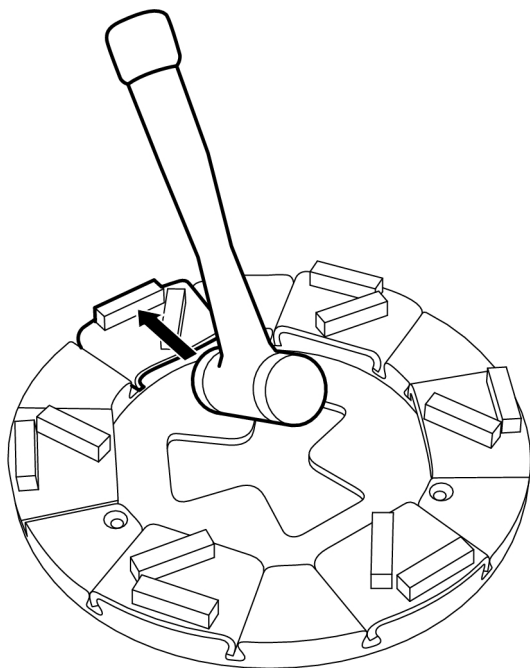

Figure 4-4. Removing grinding tools
2. Lock the grinding tool into the tool holder by giving it a few light taps with a rubber hammer - see Figure 4-4, page 16.
3. Lock the grinding tool into the tool holder by giving it a few light taps with a rubber hammer - see Figure 4-4, page 16.